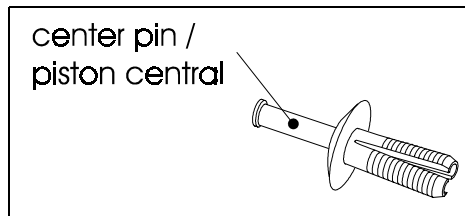
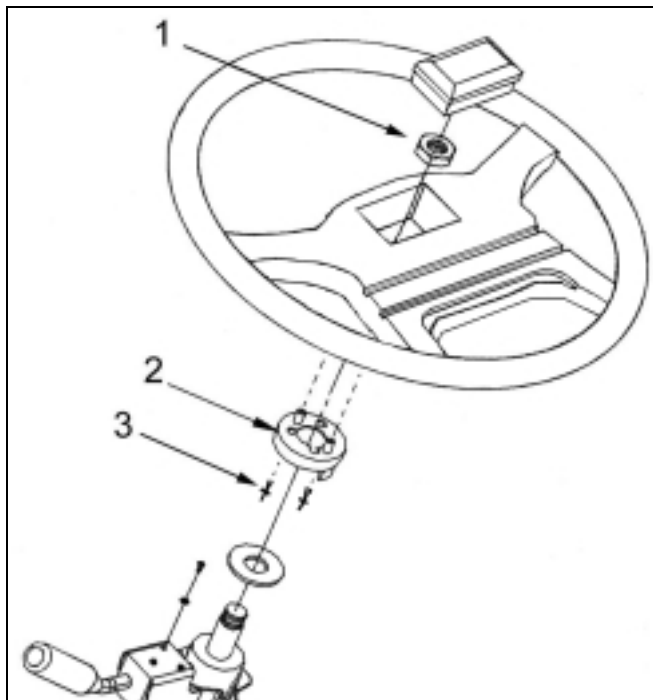

FIGURE 1 : PLASTIC RIVET
FIGURE 2
2. Check if the turn signal cancel ring (item ② figure 2) is firmly held in position on the steering wheel. It must not move off center. If the turn signal cancel ring is not properly maintained, perform the following steps :
- a) Unscrew the steering wheel nut (item ① figure 2) and remove the steering wheel.
- b) Insert the plastic rivets (figure 1, item ③ figure 2) as shown in figure 2 and hammer down the center pin.